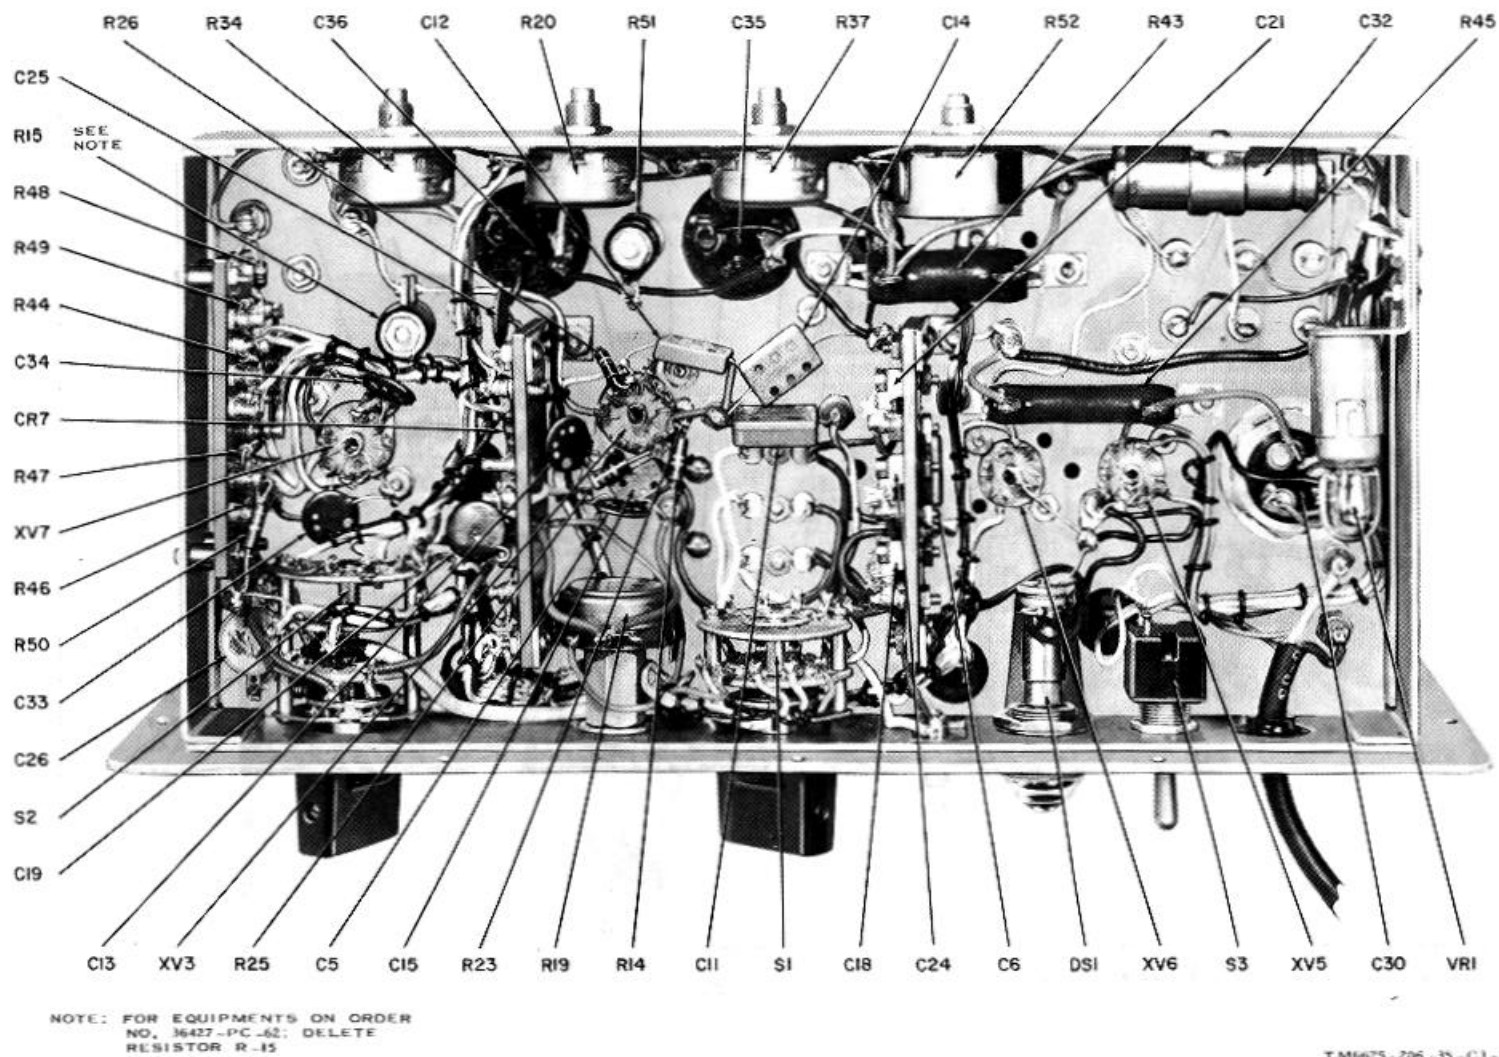
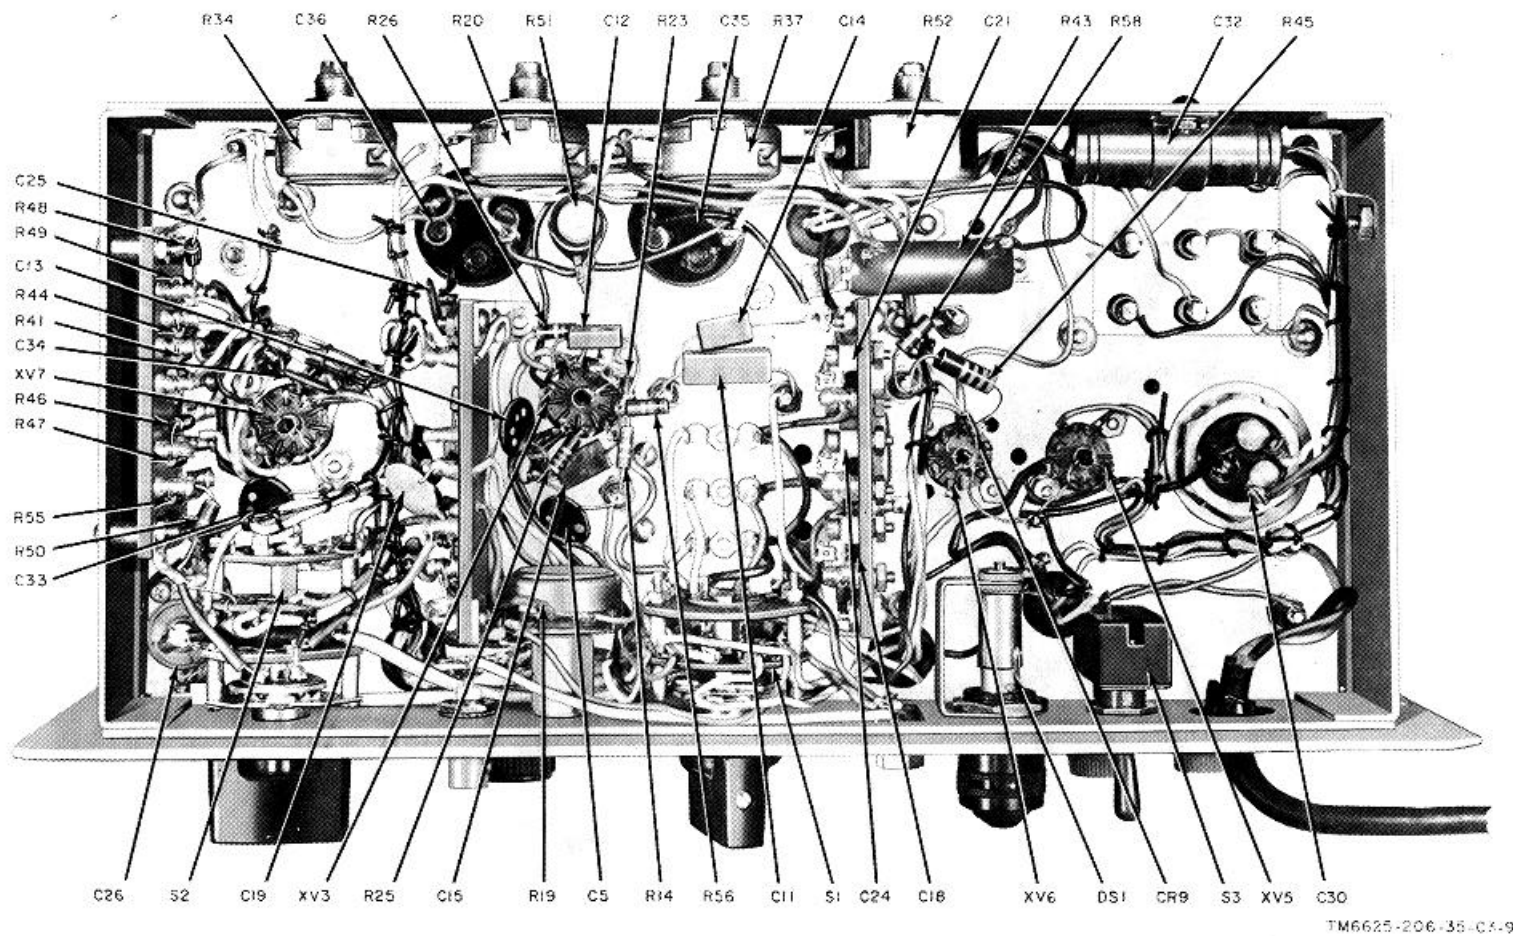

Figure 19. Test set, bottom view (AN/URM-113).
Figure 19.1. Test set, bottom view (AN/URM-113A).
Item 4, line 2. After "fig. 19," add: or 19.1.
Page 19, figure 19 (as changed by C 2, 28 Nov 62). Make the following changes:
Delete figure 19 and substitute the new figure 19.
Add figure 19.1 after figure 19:
Paragraph 26a, line 4. Change "(fig. 19)" to: (fig. 19 or 19.1).
Paragraph 26b, line 2. Change "(fig. 19)" to: (fig. 19 or 19.1).
Paragraph 28, line 3. Change "(fig. 19)" to: (fig. 19 or 19.1).
a. The signal level applied to the if. driver stage is adjusted by trimmer capacitor C26 (fig. 19.1).
h. Adjust capacitor C26 (fig. 19.1) for an rf voltmeter indication of 10.5 mv.
j. Set the FREQUENCY SELECTOR switch to CTR and readjust capacitor C26 (fig. 19.1), as required, for an rf voltmeter indication of 10.5 mv.
e. Adjust capacitor C26 (fig. 19) for an rf voltmeter indication of 10.0 mv.
b. Remove resistor R58 (fig. 19.1) and connect a decade resistance box : in its place.